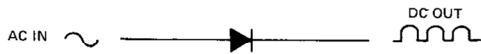

FIGURE 2
The AC input voltage is first fed to a silicon diode which is used to rectify (or convert) the sine-wave AC to a pulsating DC. The most basic form of rectifier is shown in Figure 2, a half-wave rectifier. Half-wave rectifiers are quite widely utilized in CATV amplifiers for two reasons: (1) they do not require a bulky (or expensive) transformer, and (2) they allow you to design a circuit with just a B+ and ground power system. However, they do have some drawbacks, the largest of which is that current is drawn through the power supply during only 50% ($1/2$) of the AC sine-wave cycle. This means that only $1/2$ of the power available is utilized.